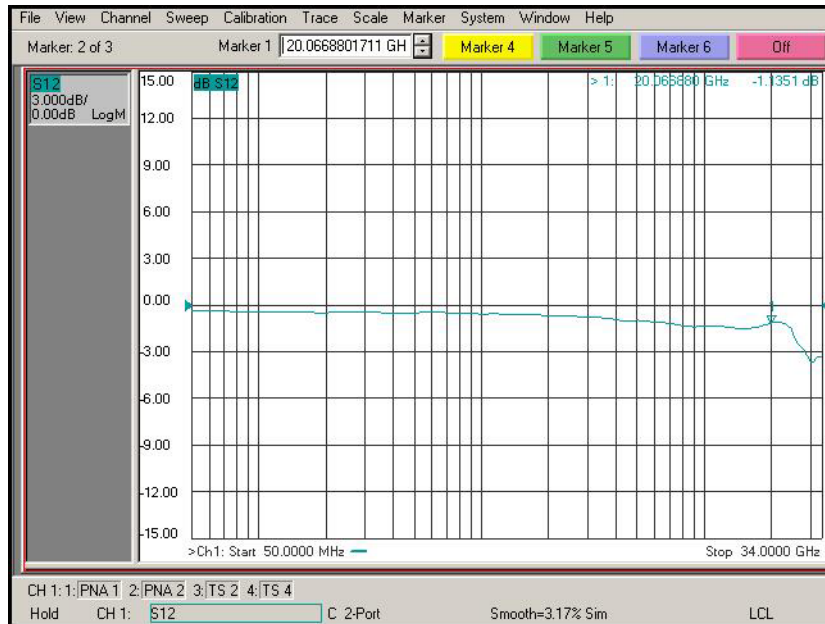

Figure 101 De-Embedded V_{in} Trace
- 10** Trigger the VNA to perform a single sweep. Press “Trigger” under Channel Setup, and then the green soft-key for “Single”. Display should look like **Figure 101** on page 133. If it looks noticeably different, the probe tip wires may not be making contact under the pincher.